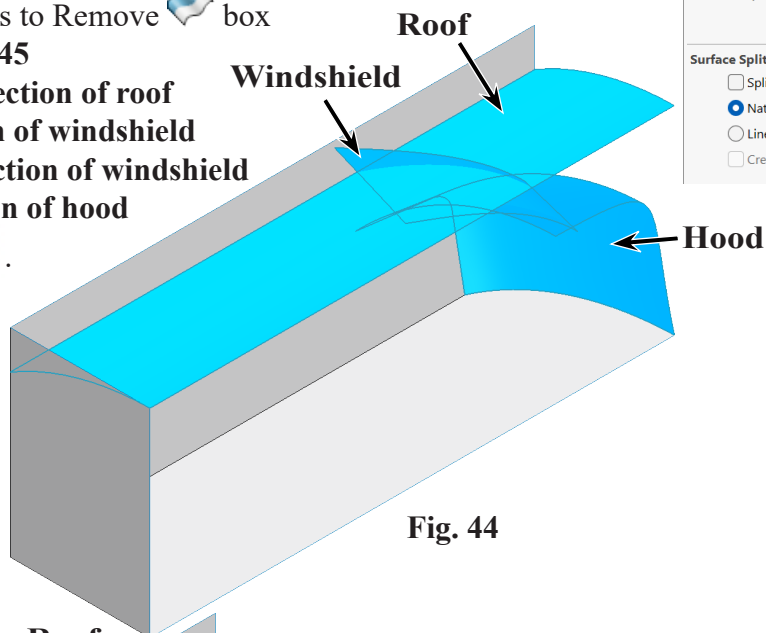

Fig. 44
Step 1. Rotate view to inside back side, **Fig. 44**. To rotate view, **Shift click the Y axis**  of the
click **roof, windshield and hood surfaces**, **Fig. 44**